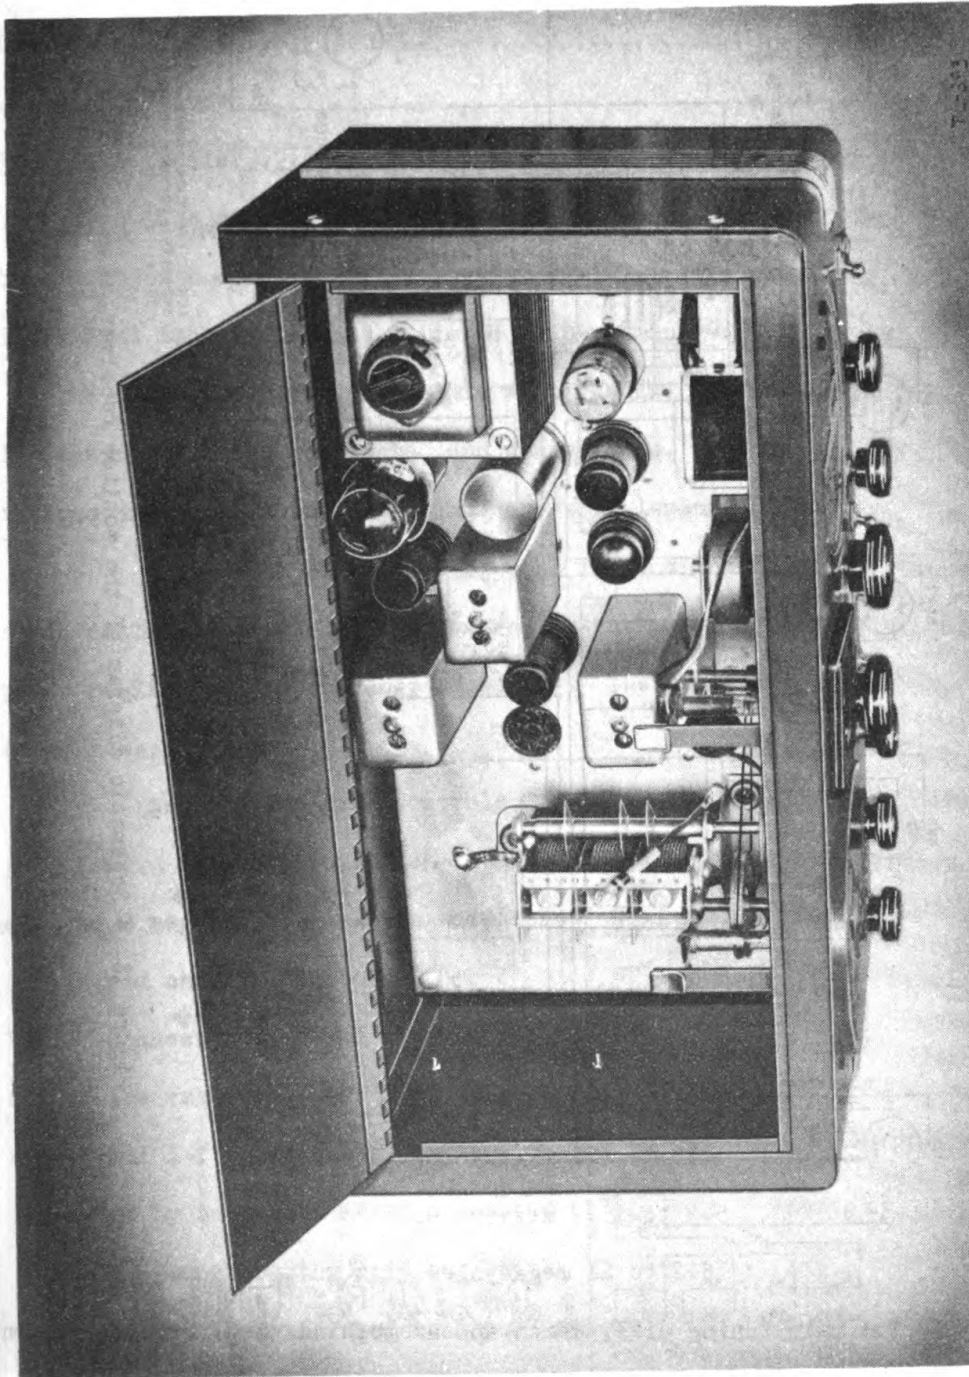
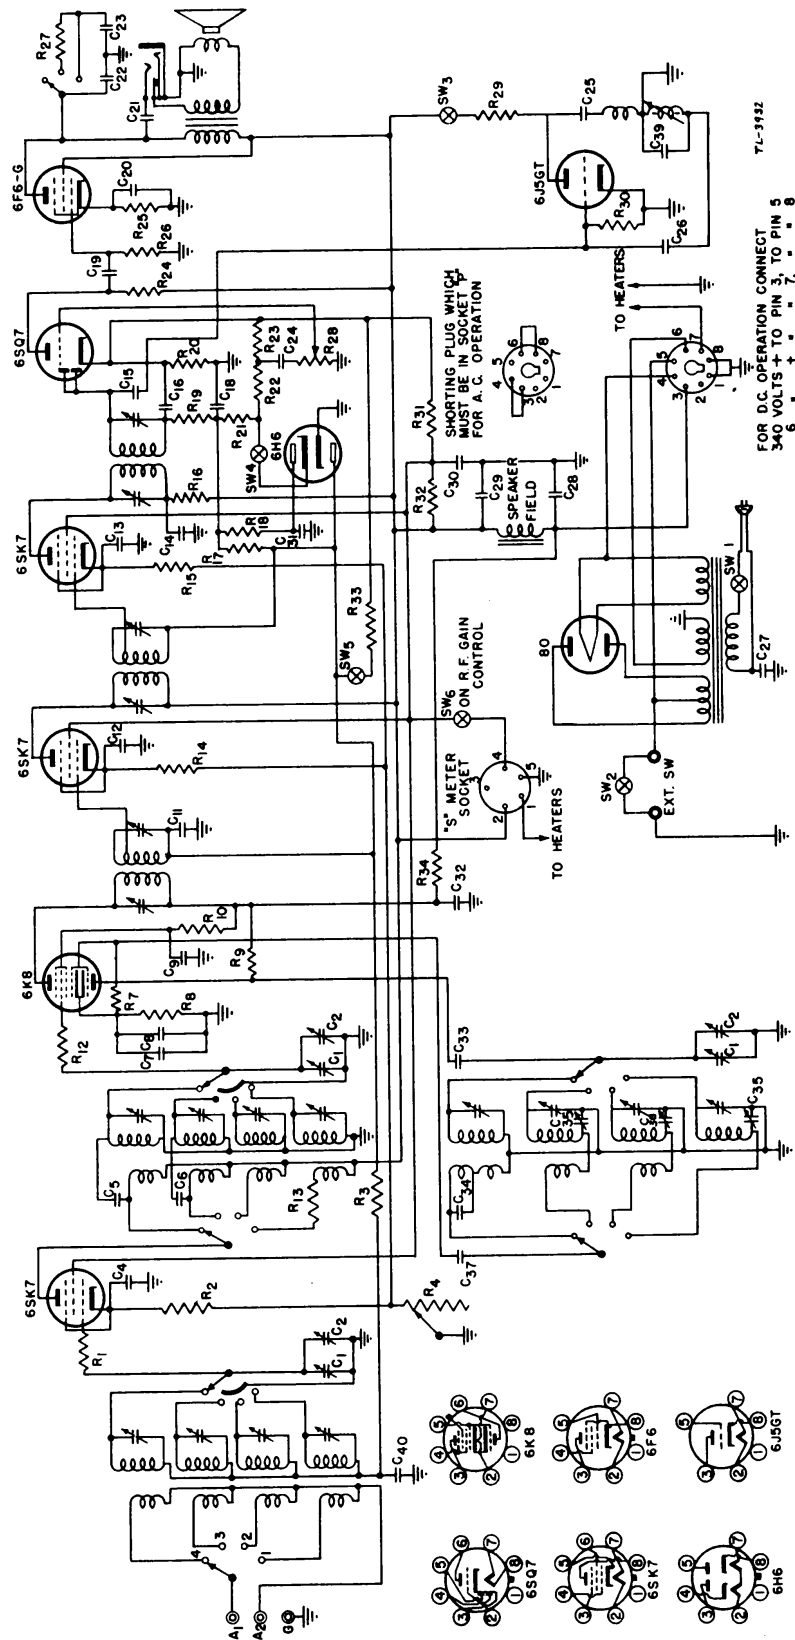

Figure 12. - Inside view of the monitor receiver.
Figure 13. - Schematic diagram of the monitor receiver.
26. MONITOR RECEIVER. - The monitor receiver is a conventional "all-wave" receiver. An inside view of the chassis is shown in figure 12. Its complete schematic diagram is shown as figure 13. From left to right, the tube functions are as follows: Type VT-117 (6SK7), r-f amplifier; Type VT-167 (6K8), combination mixer and high frequency oscillator; Type VT117 (6SK7), second i-f amplifier; Type VT-103 (6SQ7), combination second detector, avc, first a-f amplifier; Type VT-66-A (6F6G), audio output; Type VT-90 (6H6), automatic noise limiter; Type VT-94-A (6J5GT), beat-frequency oscillator; and Type VT-80 (80), power rectifier. The intermediate frequency is 455 kilocycles.